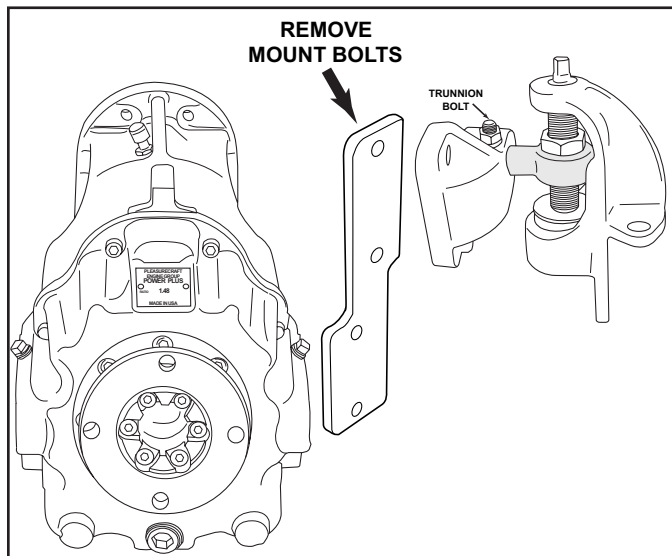

Figure 11-23 PCM V-Drive
- For the PCM V-Drive, loosen the trunnion bolt on the mount, then remove the bolts used to attach the mount to the CVD mounting bracket. Slide the mount away from the bracket. Refer to Figure 11-23.